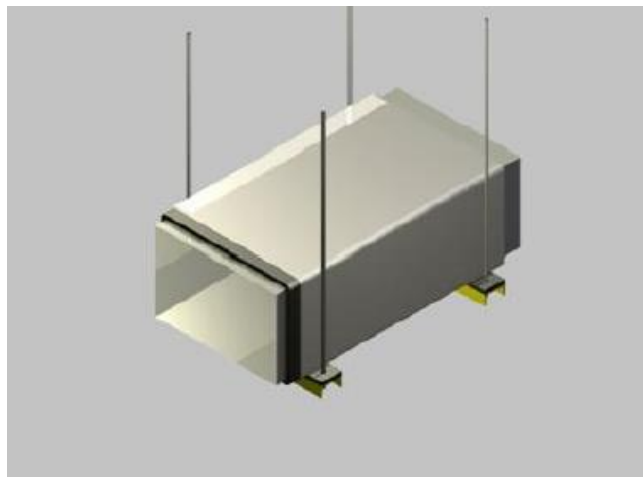

Figure 1
- 4.2.8. Conventional hangers are suitable for the installation of Thermo break. If the duct is insulated before it is installed, the hanger base must be lined to protect Thermo break against compression (Figure 1). A strip of Thermo break cut to size would be suitable.